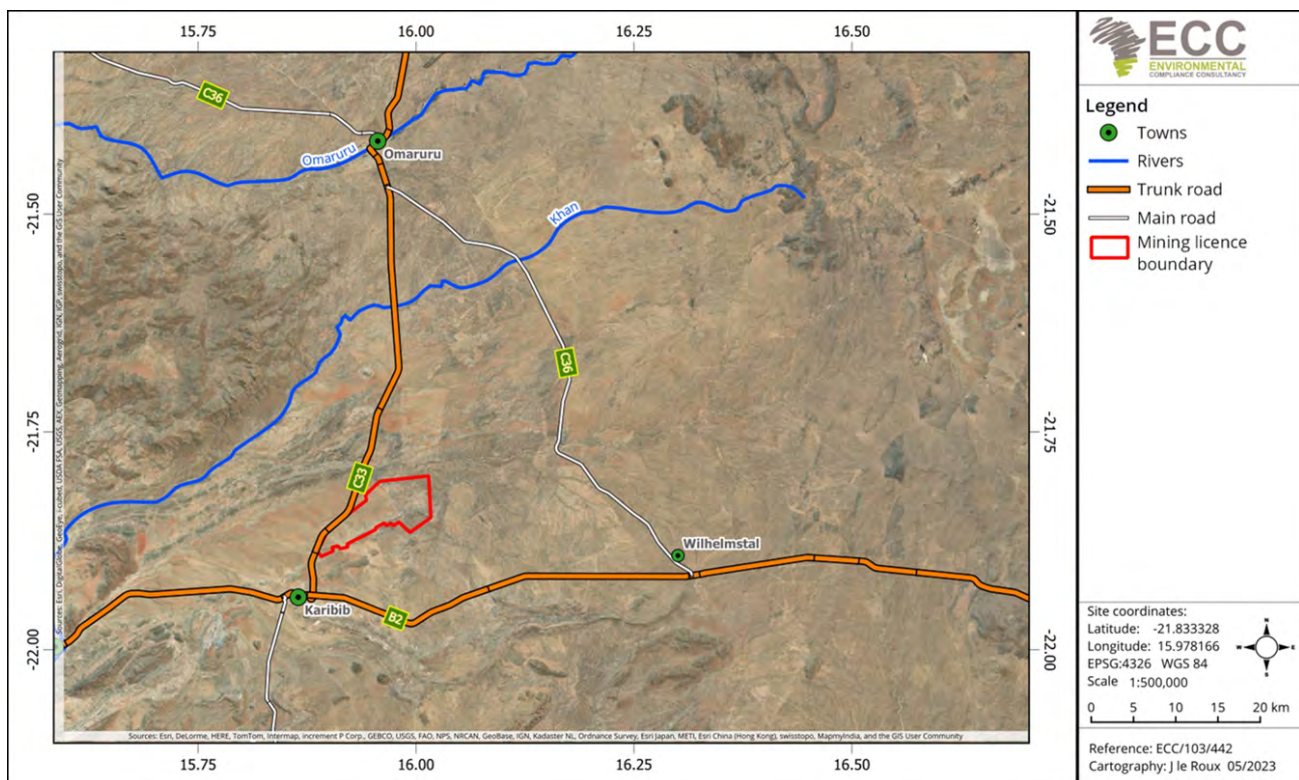

Figure 1 – Tenement boundaries of ML 238 (red polygon), surrounding towns, rivers and national roads
Environmental Compliance Consultancy (Pty) Ltd (ECC) has been engaged by Osino Gold Exploration and Mining (Pty) Ltd (hereto referred to as the Proponent), a Namibian company and subsidiary of Osino Resources Corporation to develop the construction environmental management plan (CEMP) for the construction phase of the Twin Hills Gold Mine Project. Osino Resources Corp manages operations in Namibia through its wholly owned subsidiary, Osino Namibia Holdings (Pty) Ltd, which is the parent company of Osino Gold Exploration and Mining (Pty) Ltd. The Twin Hills Gold Project is located within mining licence (ML) 238, in a triangular area bounded by the towns of Omaruru, Karibib and Wilhemstal (Figure 1).